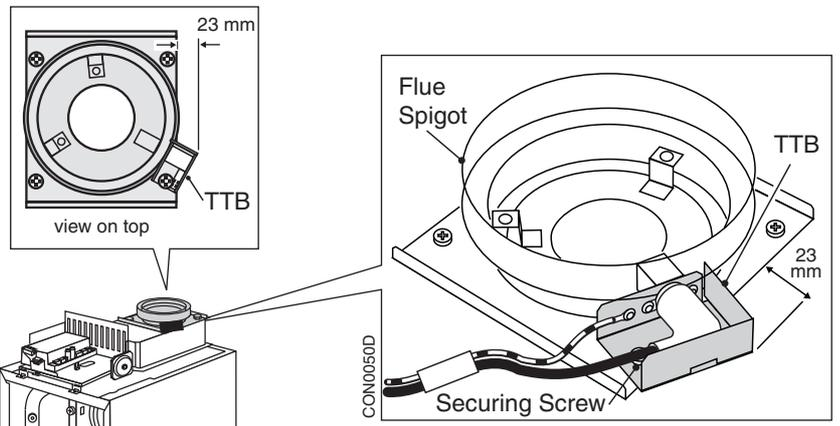

Fig. 28
**IMPORTANT:** Ensure the Products Discharge Safety Device (TTB) is repositioned correctly, after the test and secured to the dimension shown in Fig. 28.
**IMPORTANT: If the device is disturbed during routine servicing ensure it is repositioned correctly and secured to the dimension shown in Fig. 28 (23 mm from edge of flue spigot mounting plate to outer corner of TTB).**